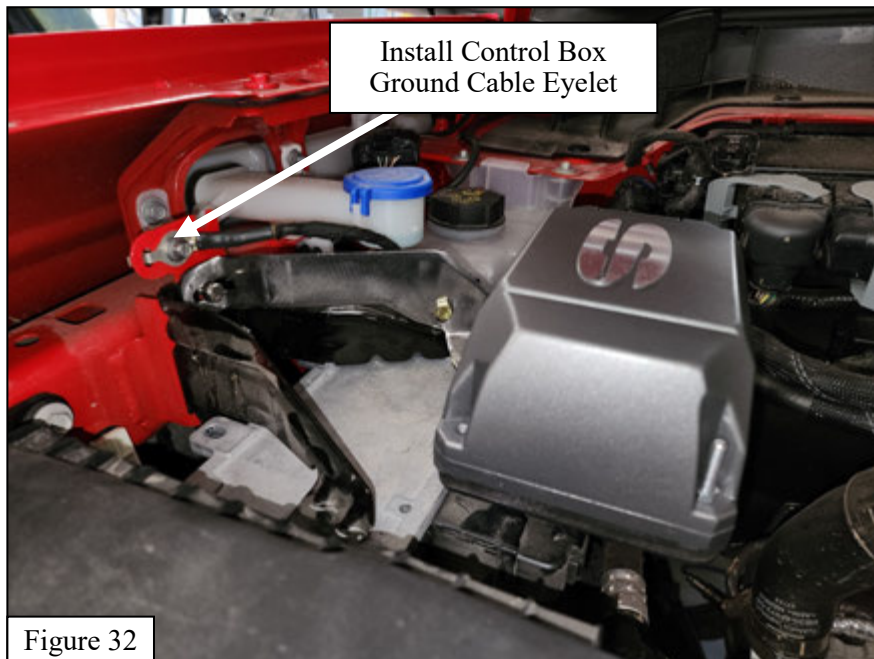

Figure 32
57. Route the yellow, red, and black motor cables towards the location shown in **Figure 32**.
58. Route the drum light cable towards the location shown in **Figure 32**.
64. Attach the control box bracket to the vehicle using the M6 hardware (**items 26, 28, 30, 31**). Tighten the M6 hardware to 7-8 ft-lbs. See **Figures 32 and 34**.
65. Install the small control box ground cable eyelet to the vehicle. See **Figure 32**.